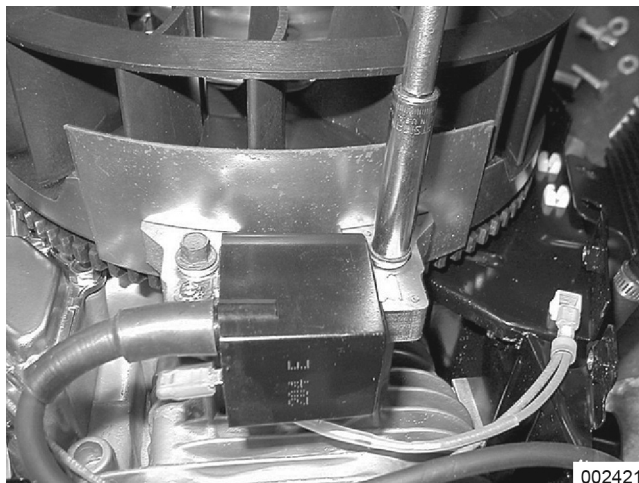

Figure 4-48. Setting Ignition Magneto Air Gap
1. See Figure 4-48. Rotate the flywheel until the magnet is under the module (armature) laminations.